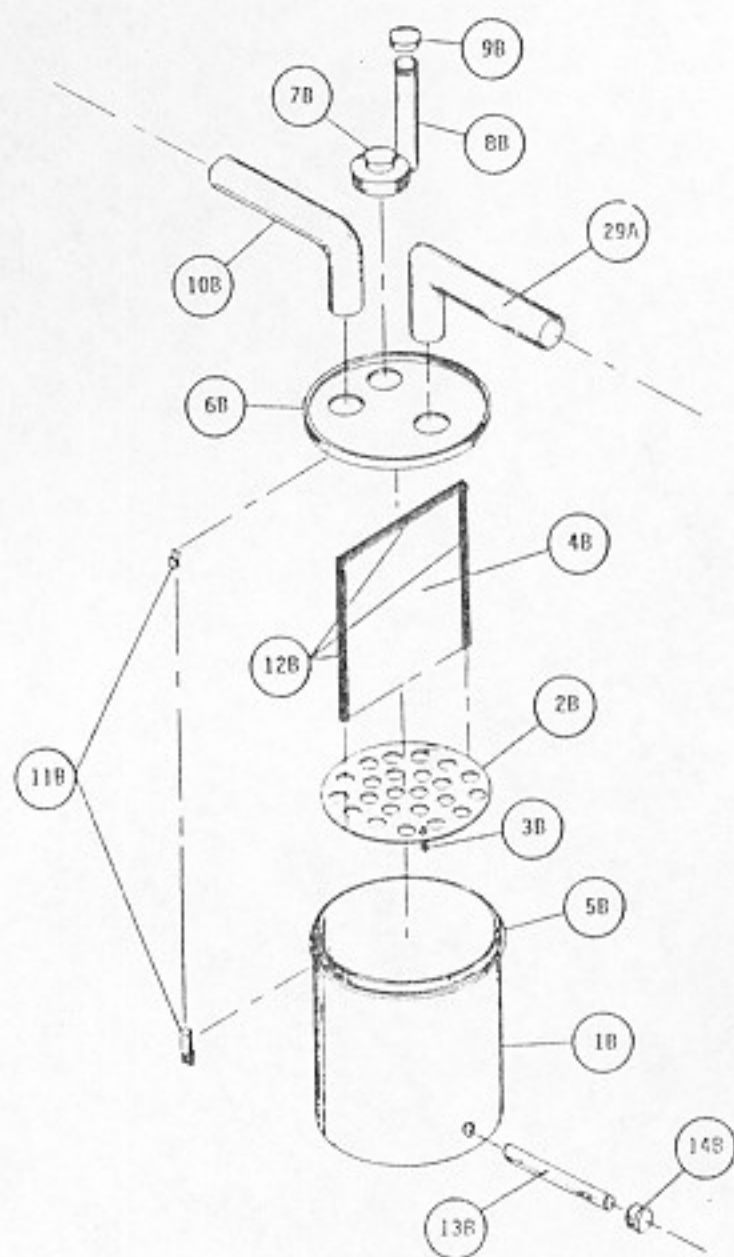

Fig. 2-15. Exploded, schematic diagram of the filter unit.
Figures 2-15 and 2-16 show exploded views of the primary filter unit; the list of materials is given in Table 2-3 (all figures and tables mentioned in Sect. 2 are presented at the end of Sect. 2). In the following instructions, all item numbers refer to either Fig. 2-15 or 2-16 and to Table 2-3.
1. A hole equal to the outside diameter of the drain tube (Item 13B in Fig. 2-15) should be cut into the side of the filter container (Item 1B); the bottom edge of this hole should be about 1/2 in. from the inside bottom of the container.
14. The wood gas inlet (Item 5C) is to be connected to the outlet piping (Item 10B as shown in Fig. 2-15) from the wood gas filter unit. Part of this connection should be a high-temperature rubber or neoprene hose to absorb engine vibration.